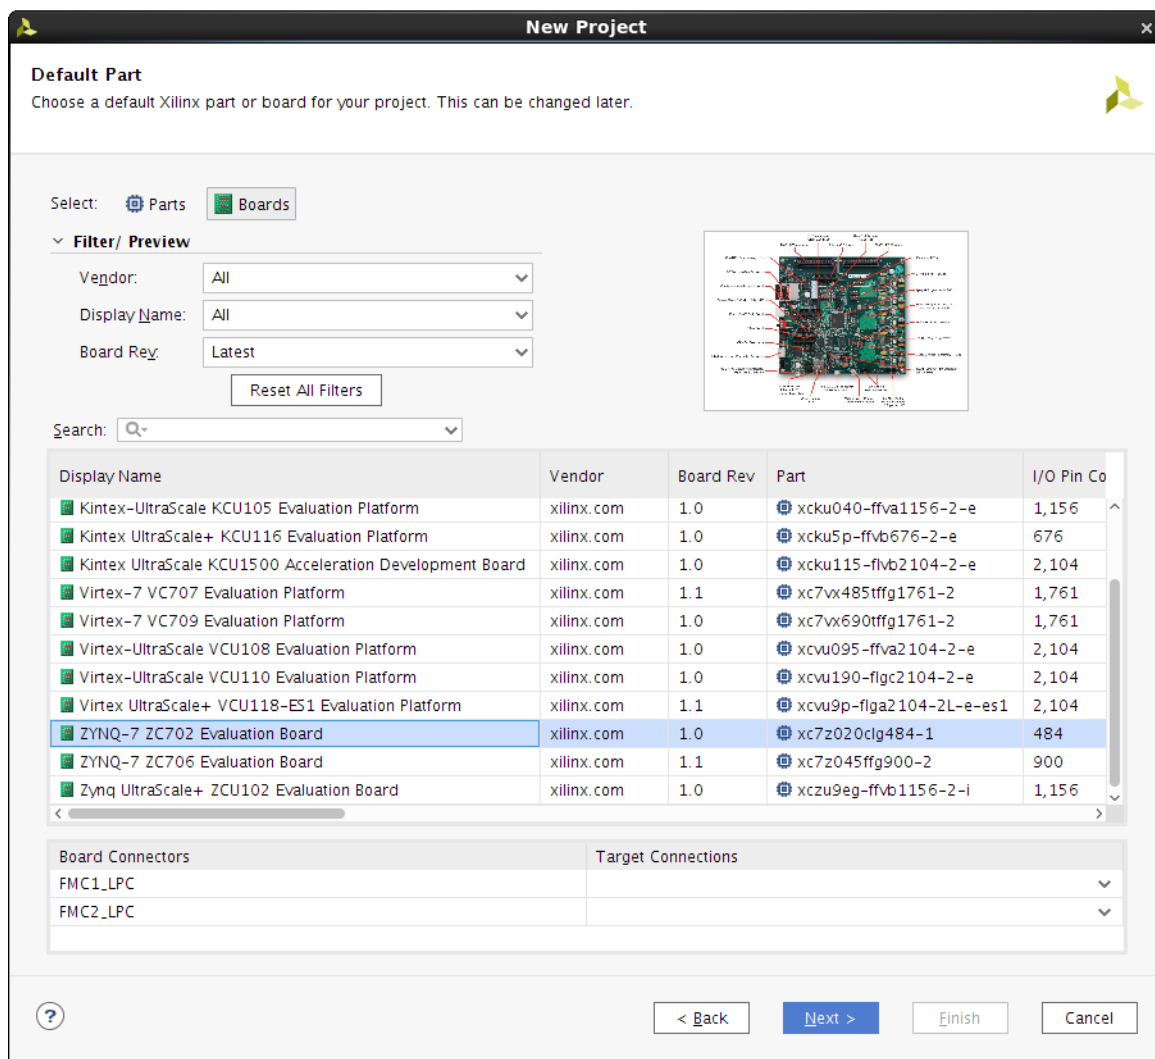

Figure 9-4: Vivado Project Specification
6. On the Default Part page, under Specify, click **Boards** and select the **ZYNQ-7 ZC702 Evaluation Board**, as shown in Figure 9-4 and press Next.